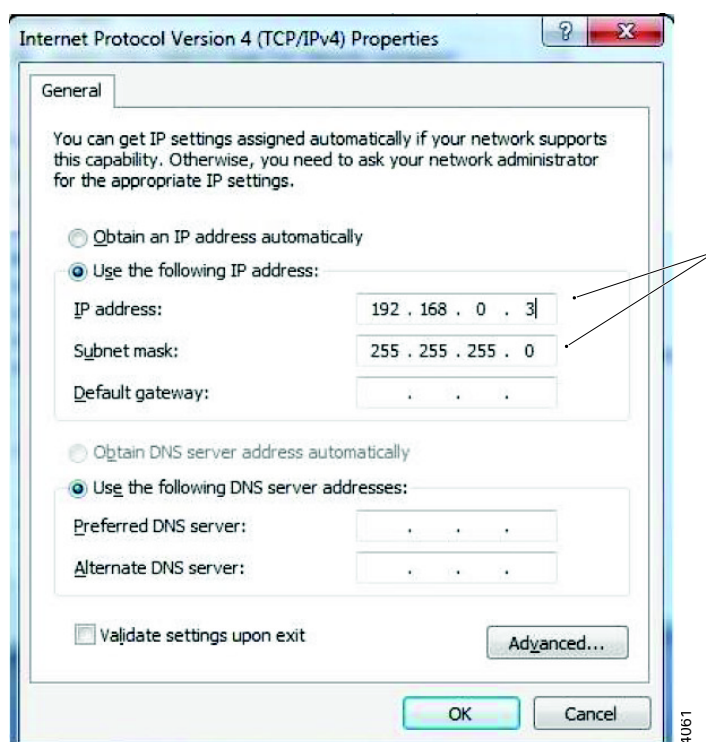

Fig. 5-4 Internet Protocol Version 4(TCP/IP) Properties
5. Enter settings for the IP address as in **Fig. 5-4**, and then click OK